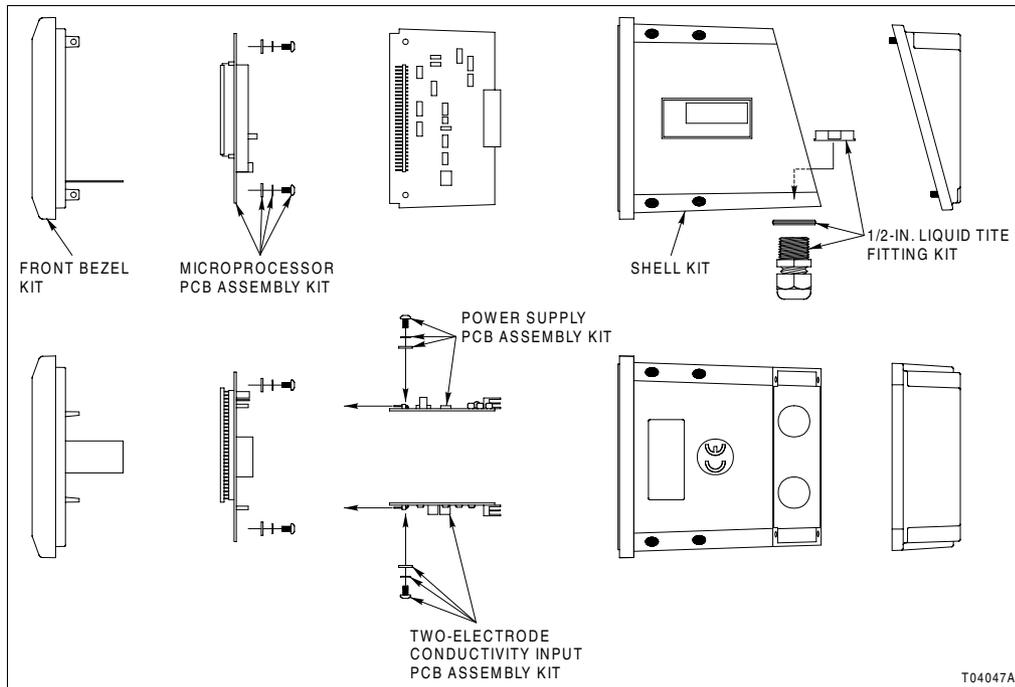

Figure PR31-1. Conductivity Input PCB Removal
1. Use the Phillips screwdriver to remove the two screws that retain the two-electrode conductivity input PCB (Fig. PR31-1).